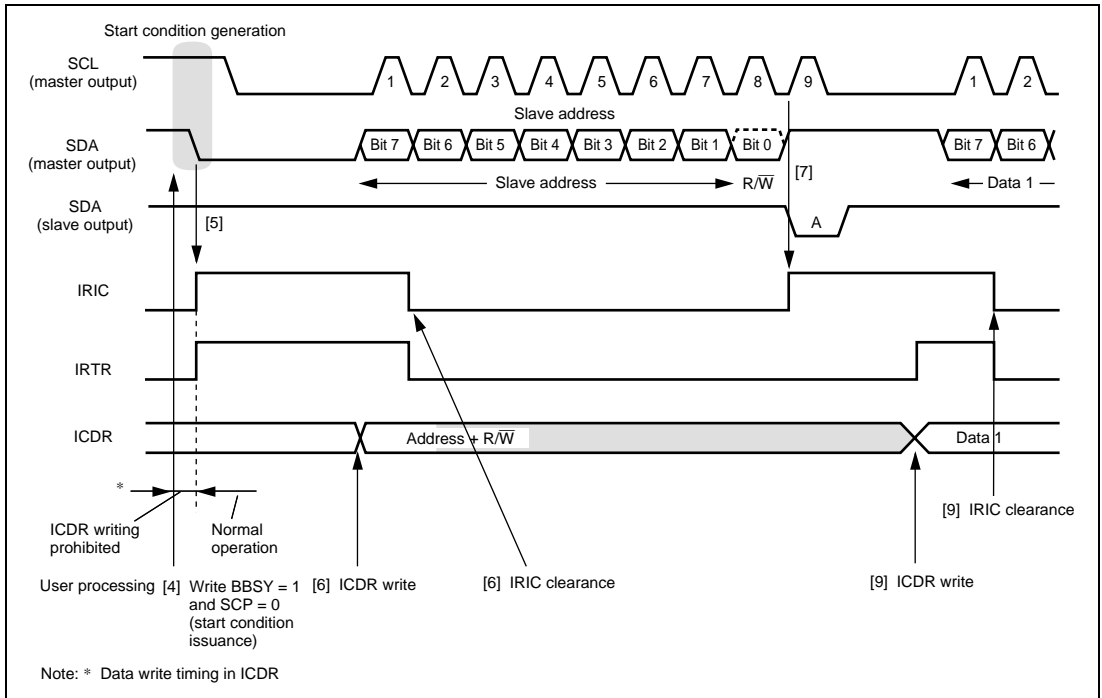

Figure 14.6 Master Transmit Mode Operation Timing Example (MLS = WAIT = 0)
6. Write the data (slave address + R/W) to ICDR. With the I2C bus format (when the FS bit in SAR or the FSX bit in SARX is 0), the first frame data following the start condition indicates the 7-bit slave address and transmit/receive direction. As indicating the end of the transfer, and so the IRIC flag is cleared to 0. After writing ICDR, clear IRIC continuously not to execute other interrupt handling routine. If one frame of data has been transmitted before the IRIC clearing, it can not be determine the end of transmission. The master device sequentially sends the transmission clock and the data written to ICDR using the timing shown in figure 14.6. The selected slave device (i.e. the slave device with the matching slave address) drives SDA low at the 9th transmit clock pulse and returns an acknowledge signal.